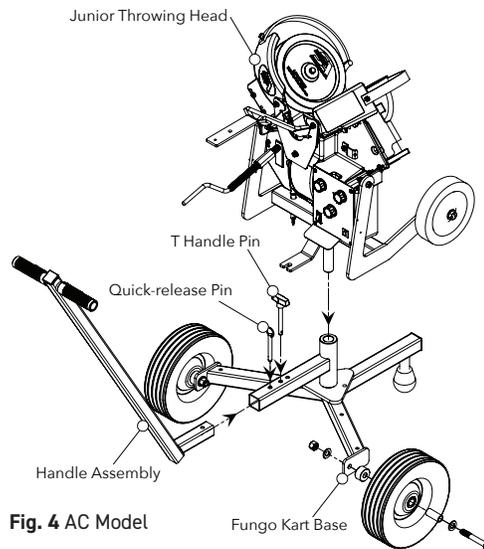

Fig. 4 AC Model
5. Install the handle assembly, insert quick-release pin (see fig. 4).